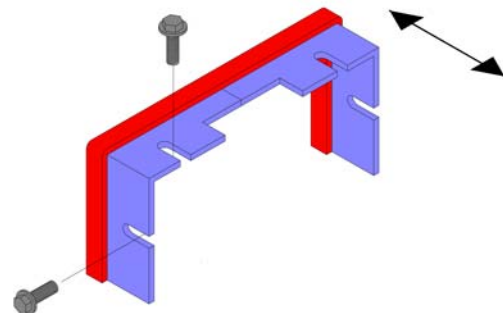

Figure 22
- Fasten bearing box seals (Figure 22) with cutting screws.